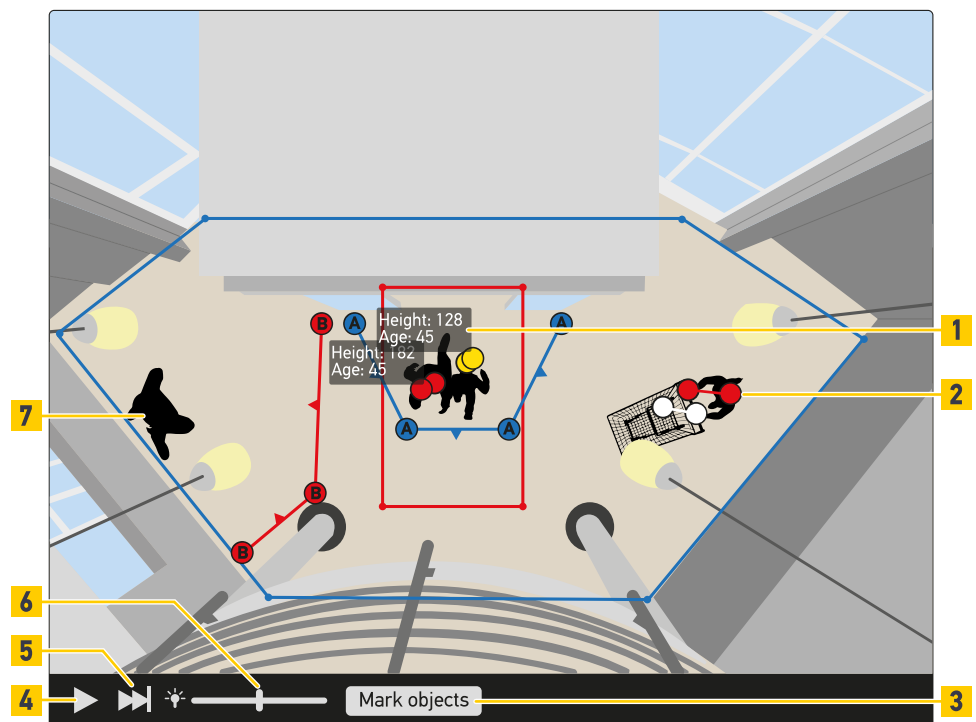

Fig. 76: Camera View
- For a live view click the  button (Fig. 76 /4). The  button changes to a  button during live view.
- To refresh view if live view is paused click the  button (Fig. 76 /5). The  button is deactivated during live view.
- To change the brightness of the live view use the slider control (Fig. 76 /6). Slide to the right for a brighter view. Slide to the left for a darker view.
- To toggle between different indicators for objects use the Mark objects button (Fig. 76 /3):
- off (Fig. 76 /7)
- with points for detected people only (Fig. 76 /2)
- with points and info text as id and height (Fig. 76 /1)